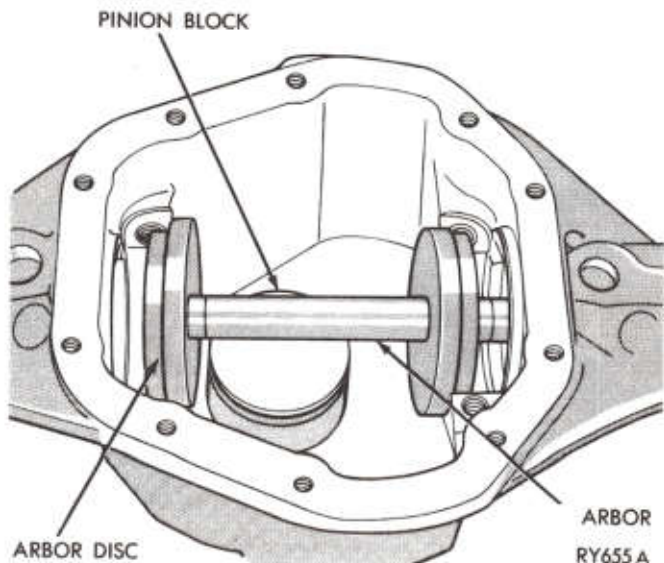

Fig. 17—Arbor Discs and Arbor in Position
(2) Mount arbor discs Tool D-116-2 on arbor Tool D-115-3 and install into cross bores of carrier (Fig. 17).